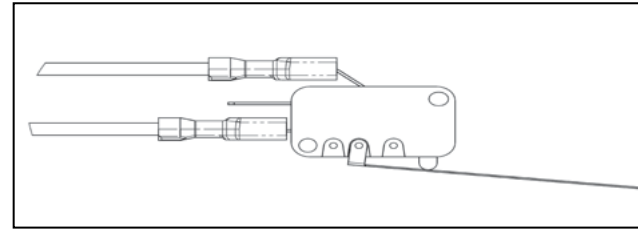

Figure 4
2.3.3 OPTIONAL- Circuit Breaker Function - Normally Closed Wiring - (Figure 4)